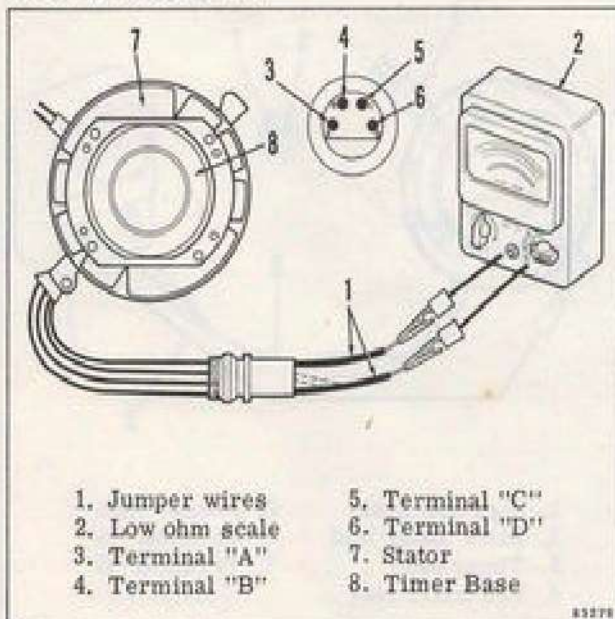

Figure 4-20. Sensor Coil Resistance
b. Insert a jumper wire in "A" terminal of the timer base end. See Figure 4-20.
c. Insert a jumper wire in terminal "B" in the timer base end of the connector. See Figure 4-20.
f. To test the resistance, connect an ohmmeter (calibrated on low ohm scale) between the "A" and "D" terminal jumper wires, then the "B" and "D" terminals. Then "C" and "D" terminals. The sensor coil resistance is good if the meter indicates  $17 \pm 5$  ohms. Replace the sensor coil if the resistance reading is not within this range. See Figure 4-20.